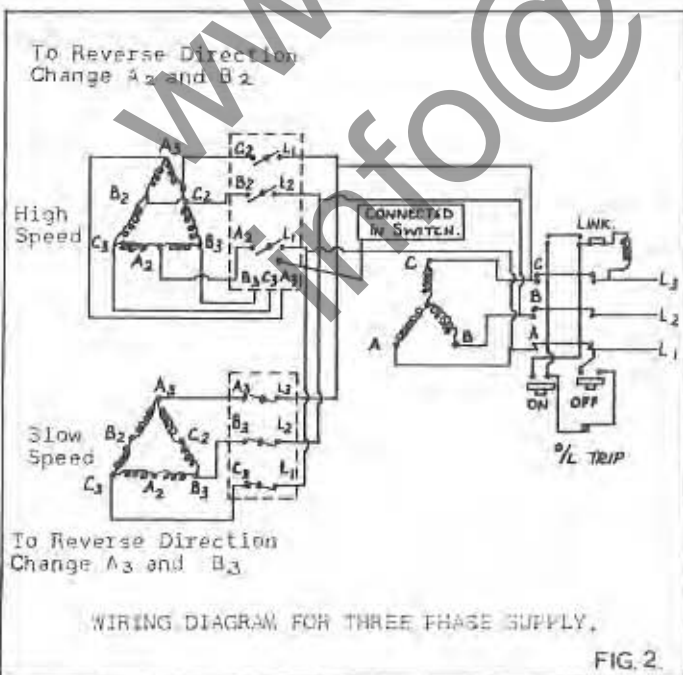

FIG. 2
4. Connect the line leads to the appropriate terminals. See Fig. 2 for three phase supply.